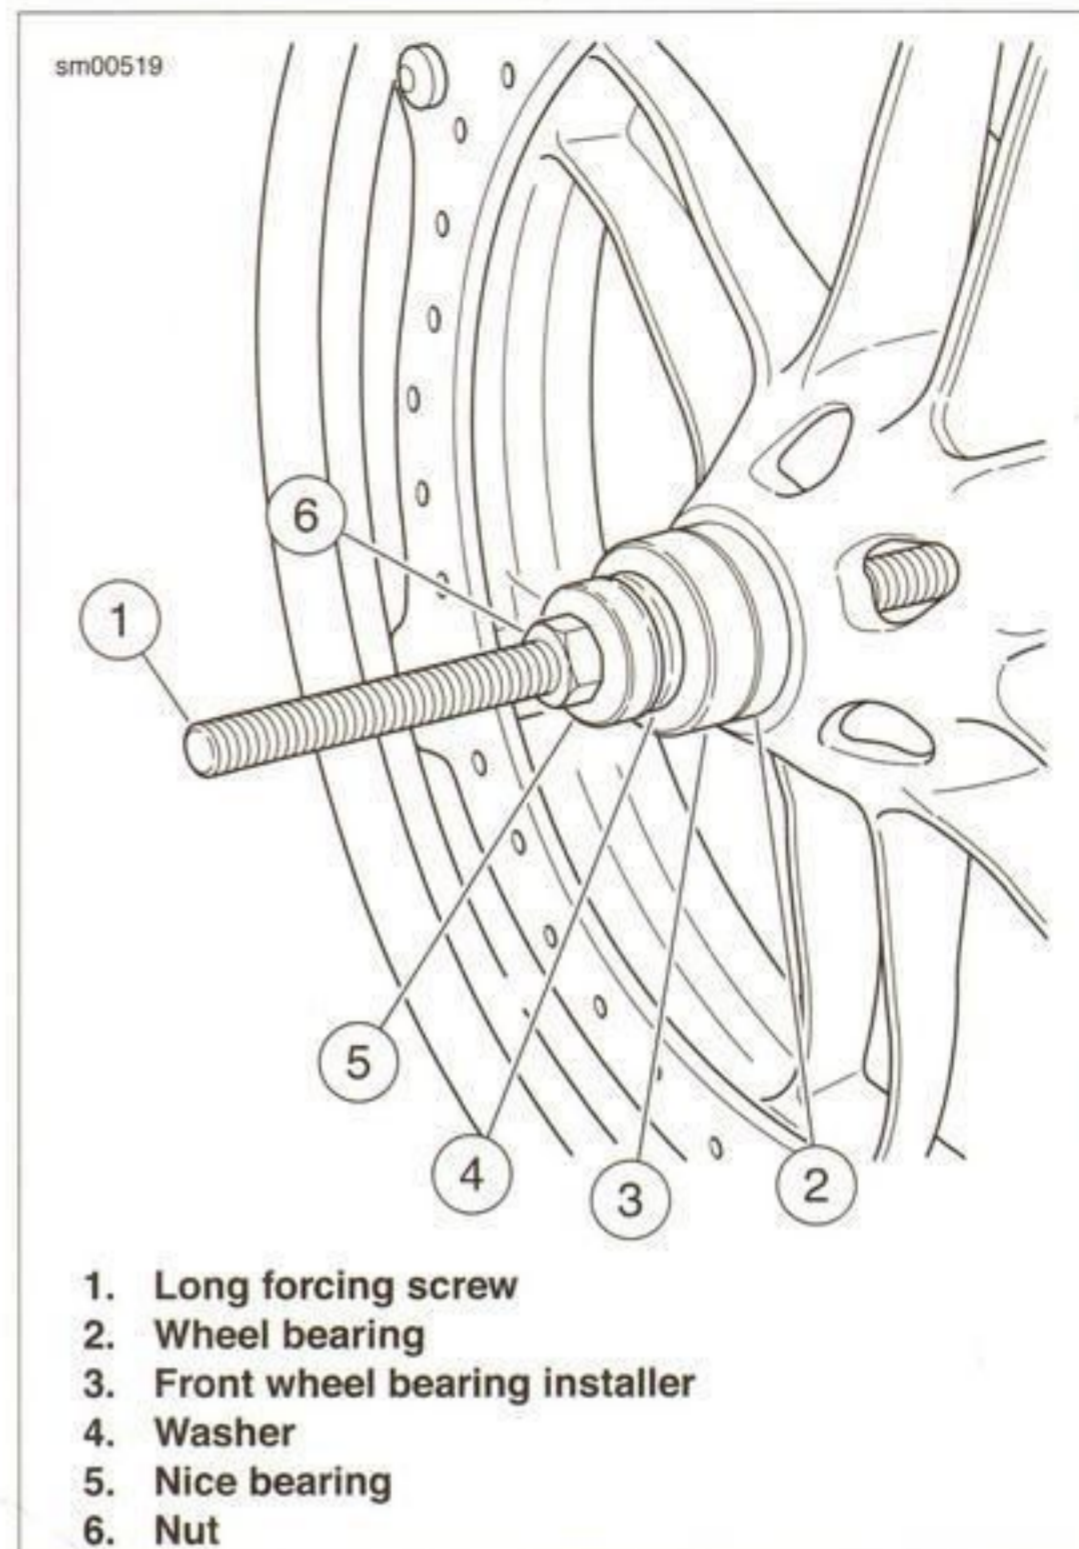

Figure 2-45. Installing Wheel Bearings
3. See Figure 2-45. Sparingly apply EXTREME PRESSURE LUBRICANT (Part No. J-23444-A) to the threads of the long forcing screw (1).
4. Insert a **new** wheel bearing (2) squarely into the hub, with the lettered side facing out (away from the wheel).
5. Slide the FRONT BEARING INSTALLER (Part No. B-43993-9) (3) (from kit Part No. B-43993-50A) onto the forcing screw (1), with the smaller diameter toward the bearing bore.
6. Install a washer (4), Nice bearing (5) and nut (6) onto the forcing screw (1).
7. While holding the forcing screw (1), tighten the nut (6) until the bearing is seated firmly against the shoulder inside the bearing bore in the wheel hub.